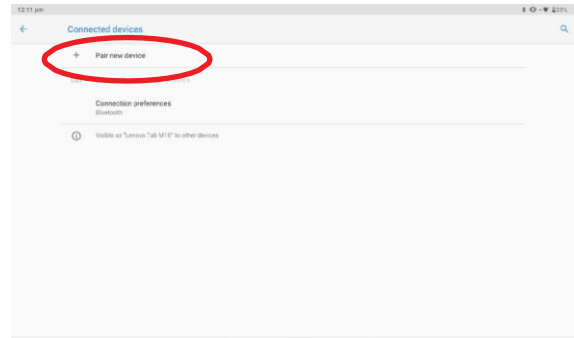

Figure 57
3. Click “Pair New Device” (Figure 57).